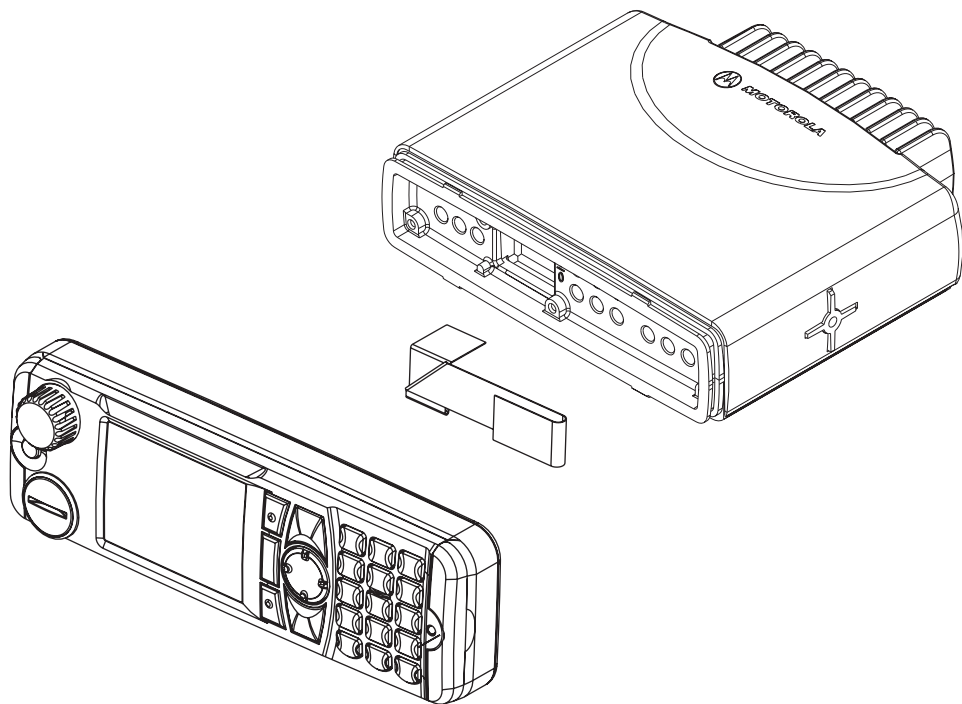

Figure 6-2 Flexible Connection Removal
1. Align the 'dot' or 'O' marking on the flex with the 'O' mark on the chassis to the socket on the terminal assembly as shown in Figure 6-2.